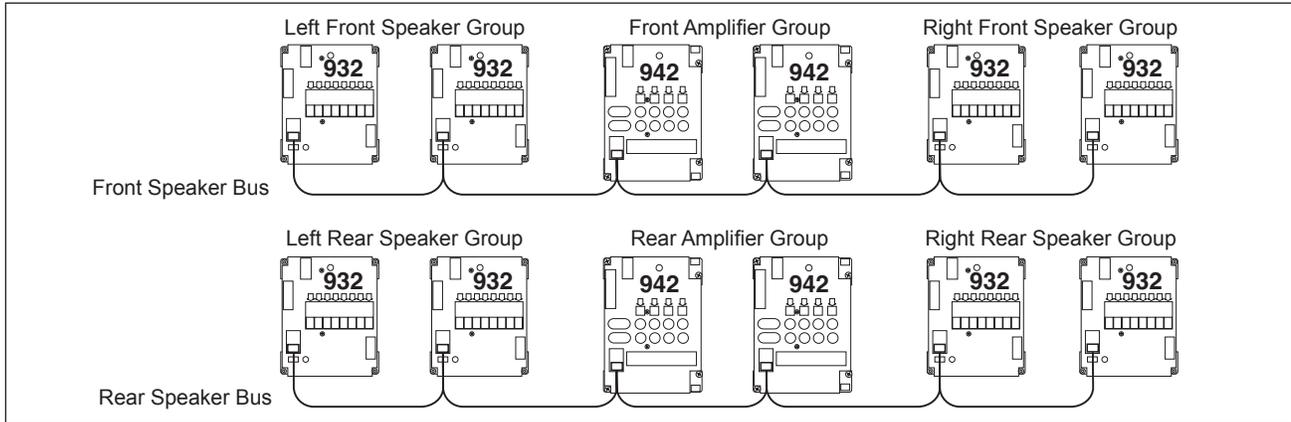

Figure 26. Speaker Bus Example.
2. Using the same bus cable or branching off with a new section of bus cable (shown right), continue connecting all 932 modules in the Front Speaker group to the Front Speaker Bus (See Figure 26).